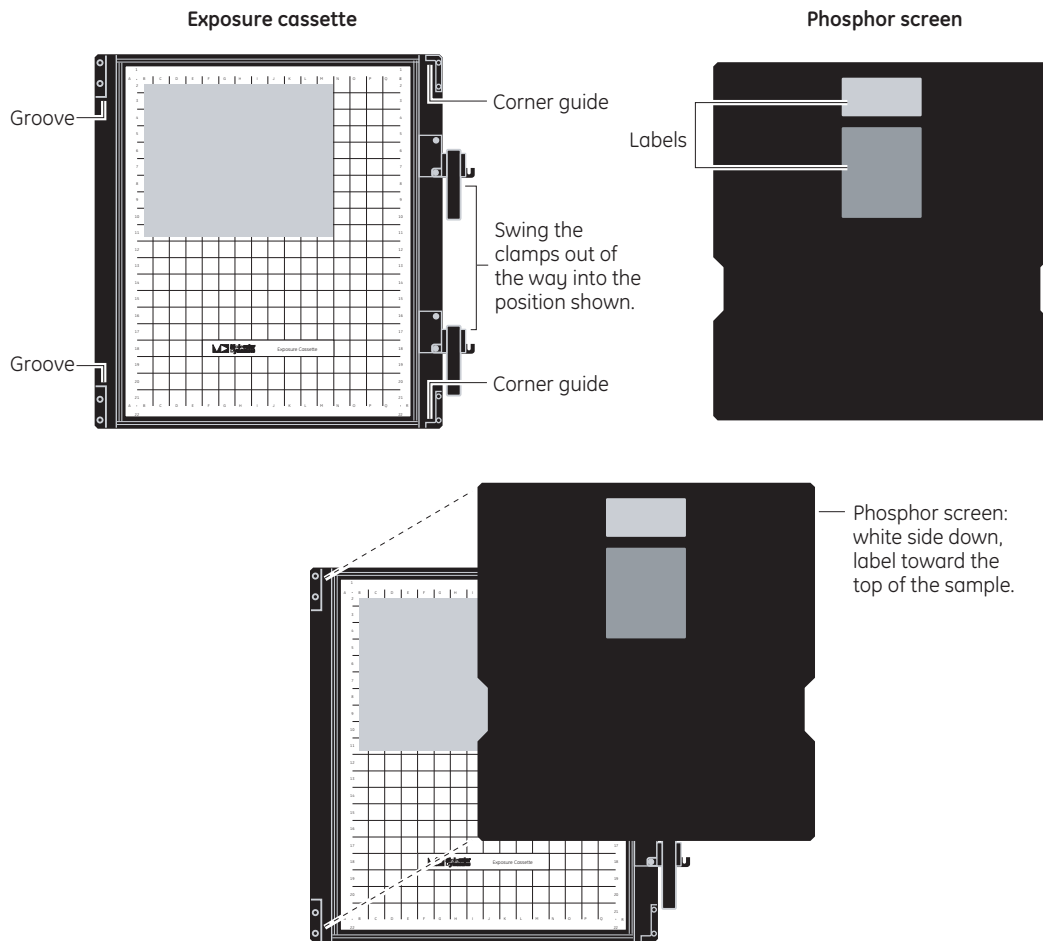

Fig 5-3. Loading the large-format mounted screen into the exposure cassette.
- 3 Note the groove along the side of the exposure cassette opposite the clamp or clamps. Place the edge of the screen into the groove. The white side of the screen should be face down, toward the sample. The top of the label on the screen should be toward the top of the cassette (fig 5-3).